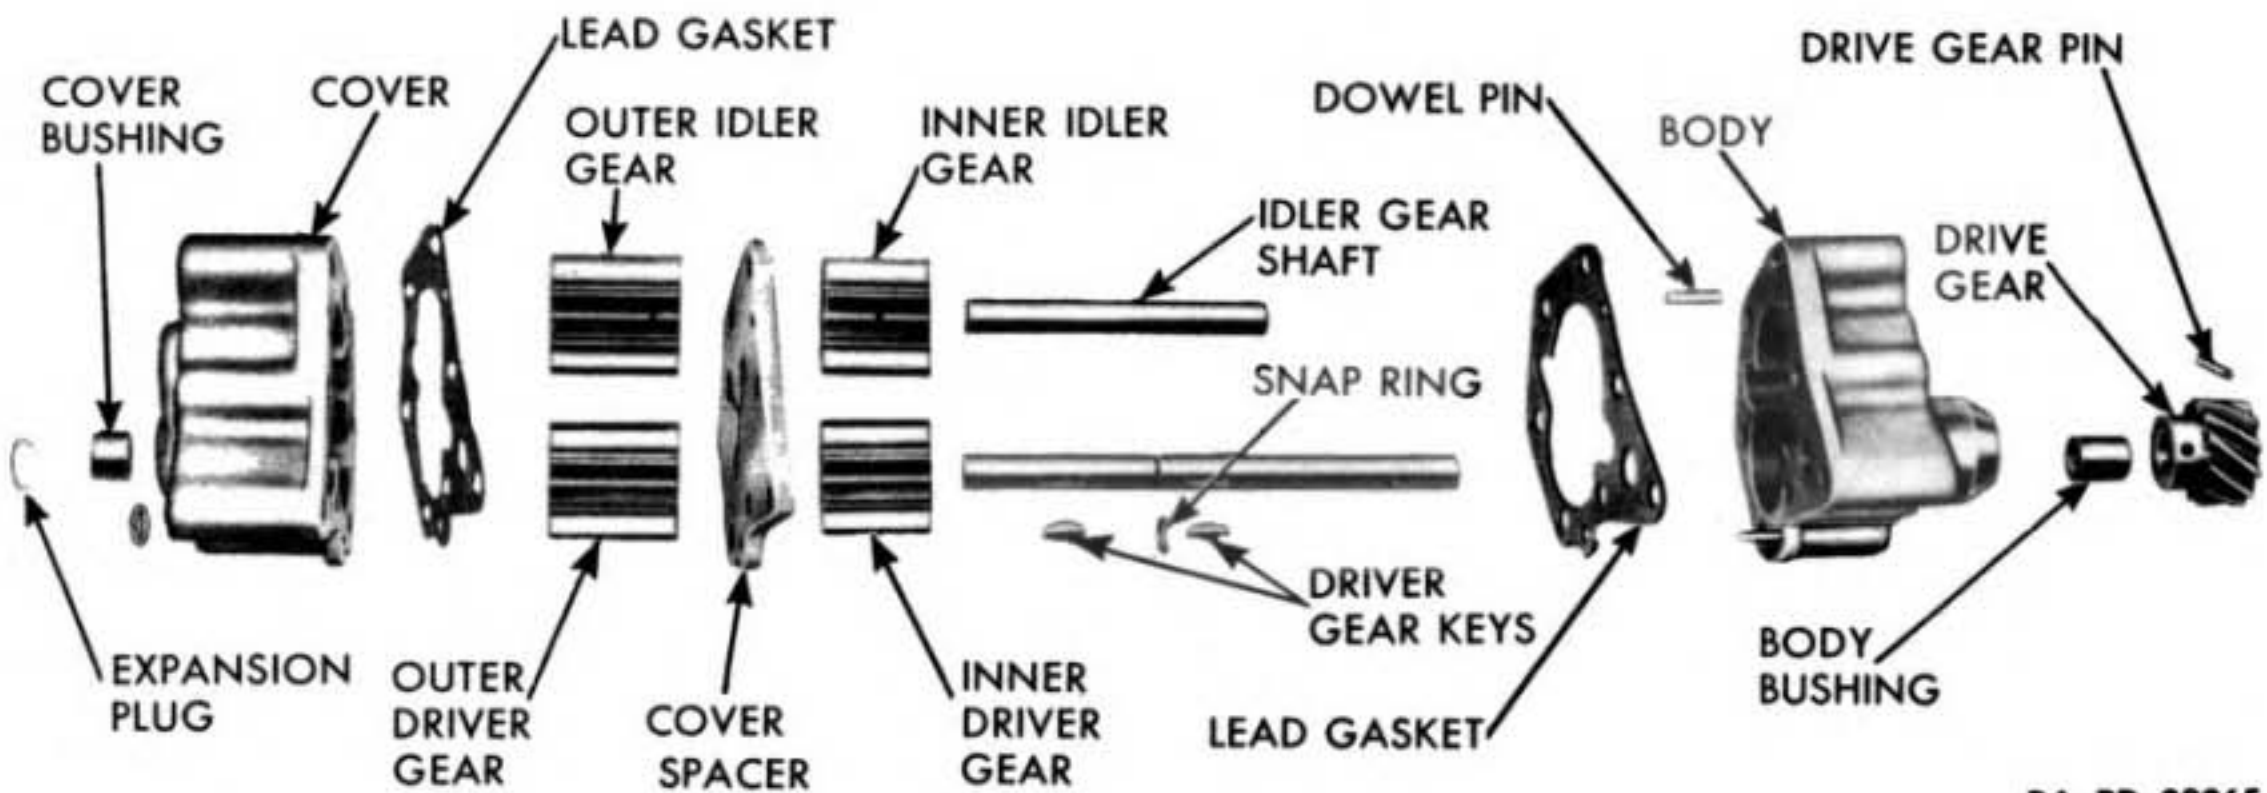

**Figure 133 —
d. Repair. With a $\frac{19}{32}$ -inch diameter drift, drive bushing out of oil pump cover (fig. 133). With same drift, drive new bushing in (fig. 134). Perform same operations on oil pump body, except that two bushings are used. Drive one bushing in from outside, and one in from gear bore side of body. Place scavenger pump spacer between body and cover, and bolt body and cover together with seven $\frac{5}{16}$ -inch bolts and nuts. Do not tighten nuts. Drive two taper pins in holes in body and cover flanges. Tighten seven nuts. Line-ream bushings in cover and body 0.500 to 0.501 inch. Drive taper pins out (fig. 126), and remove bolts.